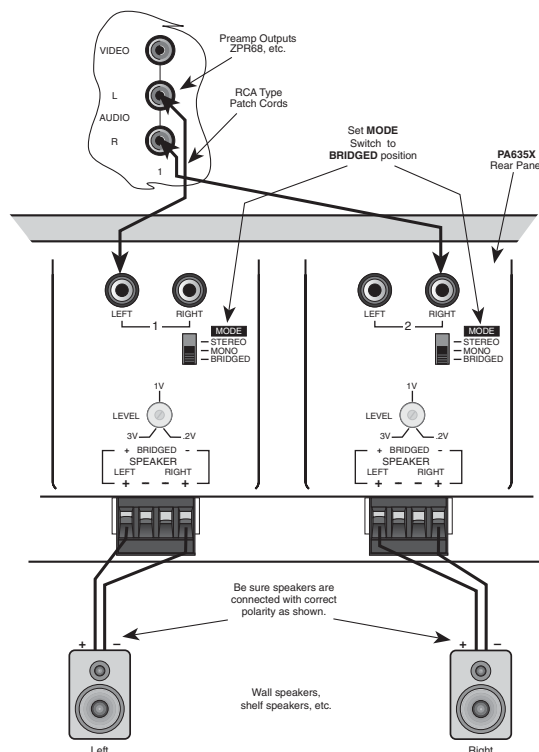

FIGURE 6 – BRIDGED MODE CONNECTIONS
1. You may connect the RCA-type patch cables from the OUTPUT jacks of the driving preamp or other source to either the LEFT or the RIGHT input jacks of the bridged pair, as shown in Fig. 6. Do this for just the amplifier pairs you wish to run in the bridged mode.
3. Connect one speaker wire pair between the 4-terminal "SPEAKER" connectors on the PA635X and the speakers as shown in Fig. 6. Be sure to use only the two outer terminals marked "+" and "-" on the 4-terminal connector as shown on the panel for BRIDGED connections.
No sound from CH2, CH4 or CH6 when stereo operation is desired.	BRIDGED/STEREO switch is incorrectly set to BRIDGED position. Set to STEREO position. See Fig. 6.